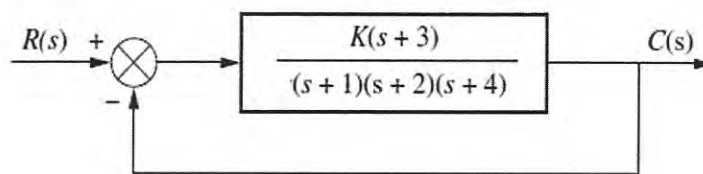

Figure Q4 (b)
- (b) Construct the root locus for the system shown in **Figure Q4 (b)** and determine the location of dominant closed loop poles to yield maximum overshoot of less than 30%. (14 marks)